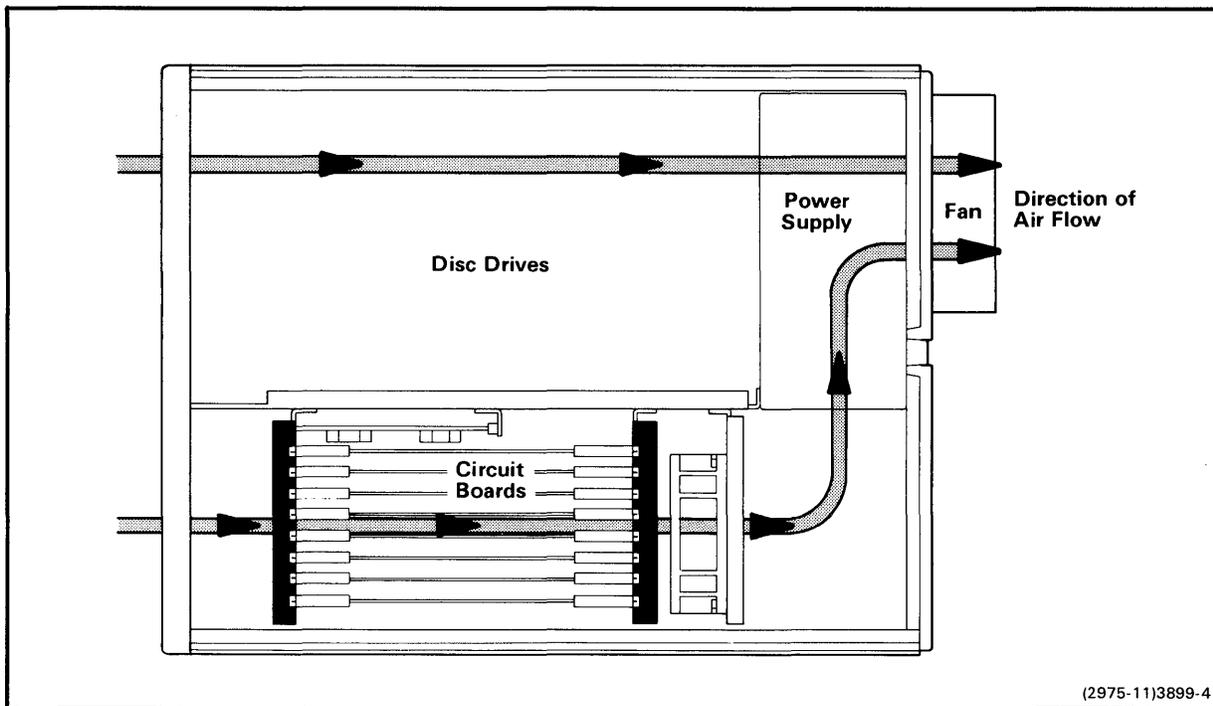

Fig. 2-2. Air flow through the 8560 MUSDU.
- Adequate clearance must be allowed for ventilation of the 8560 (see Fig. 2-2).